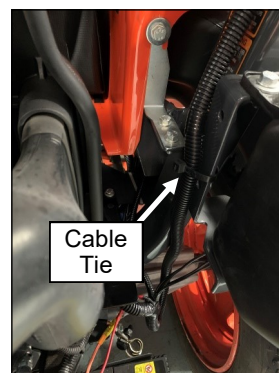

Fig. 7.2 (Secure Wire Harness to Vehicle)
- 7.2 See fig. 7.2. Secure the wire harness to the vehicle frame using a cable tie as shown. Ensure that the harness will not contact any sharp edges.